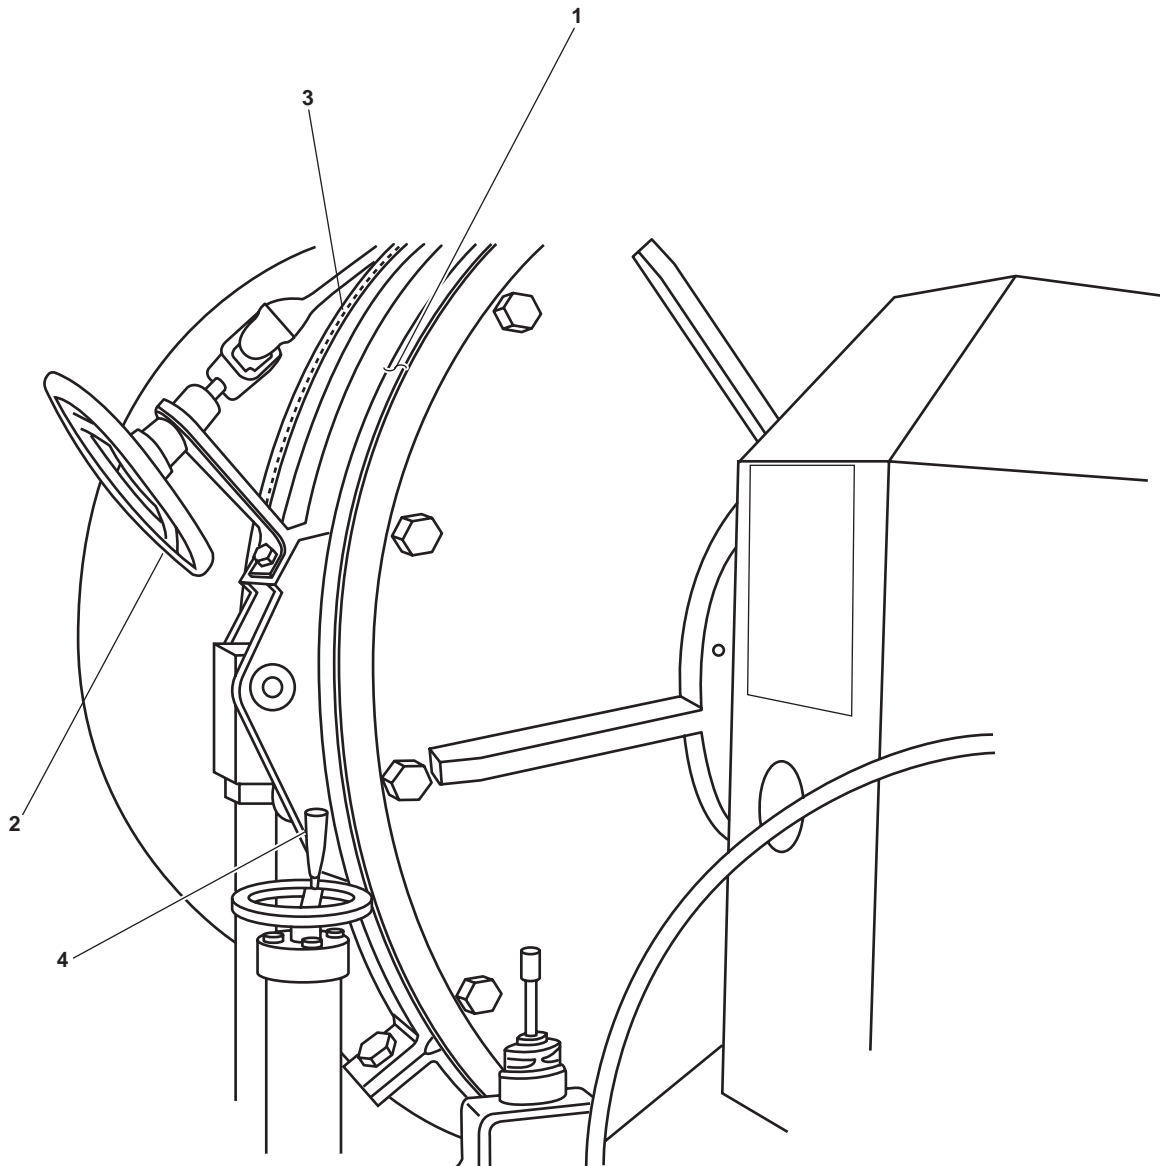
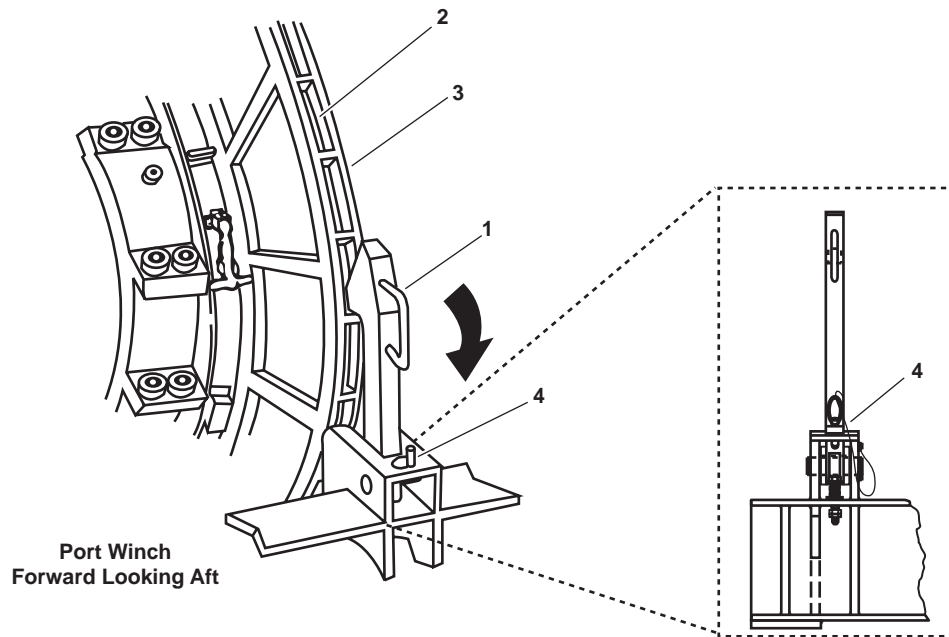
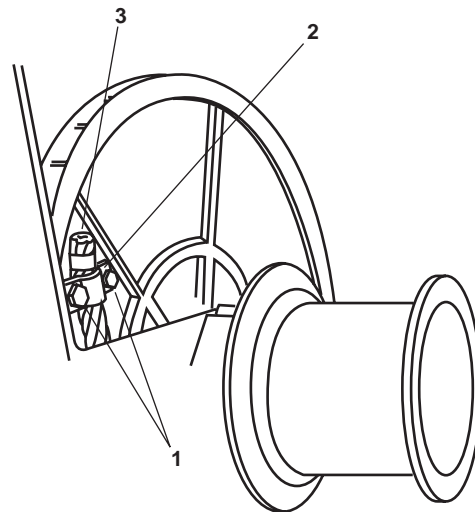
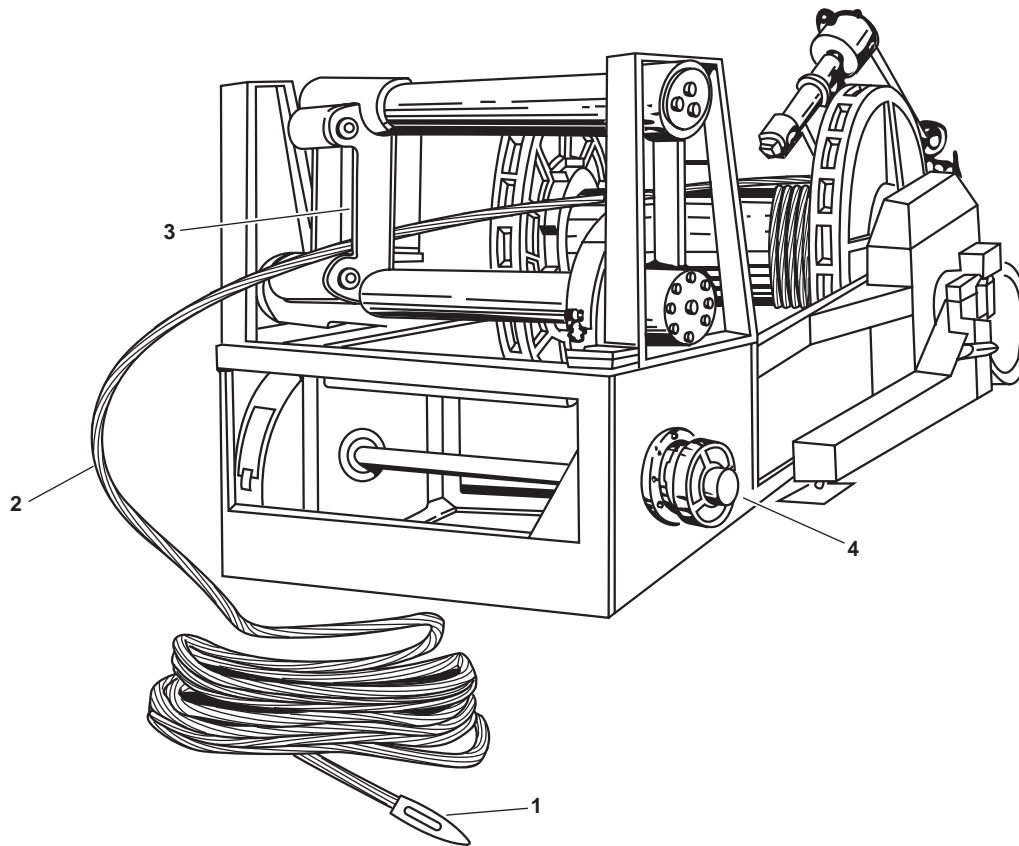

Figure 1. Towing Machine
Figure 2. Mechanical Dog
Figure 3. Cable Clamp Securing Bitter End of Wire Rope
Figure 4. Towing Machine Aft Looking Forward
1. Tighten the clutch brake (figure 1, item 1) by turning the clutch brake hand wheel (figure 1, item 2) . A force of 25 lb-ft (33.9 Nm) is sufficient to provide enough friction in the clutch brake to drive the towing machine under normal loads.
2. Loosen the auxiliary brake (figure 1, item 3) by turning the auxiliary brake hand wheel (figure 1, item 4).
3. Disengage the mechanical dog (figure 2, item 1) from the ratchet teeth (figure 2, item 2) on the towing machine drum (figure 2, item 3) by pulling the mechanical dog away from the towing machine drum (figure 2, item 3).
4. Secure the mechanical dog (figure 2, item 1) in the disengaged position by inserting the quick release pin (figure 2, item 4).
5. Remove the two bolts (figure 3, item 1) from the cable clamp (figure 3, item 2) securing the bitter end of the wire rope (figure 3, item 3).
6. Grasp the working end of the wire rope (figure 4, item 1) to maintain control of the wire rope (figure 4, item 2).
7. Loosen the clutch brake (figure 1, item 1) by turning the clutch brake hand wheel (figure 1, item 2) . The wire rope (figure 4, item 2) is now ready to be free spooled from the towing machine drum (figure 2, item 3).
8. Once all wire rope (figure 4, item 2) has been removed from the towing machine drum (figure 2, item 3) the towing machine is prepared for brake replacement. Notify the maintenance supervisor.
2. Install the bitter end of the wire rope (figure 3, item 3) through the spooling device rollers (figure 4, item 3) and secure the bitter end of the wire rope with the two bolts (figure 3, item 1) and the cable clamp (figure 3, item 2).
3. Heave in the wire rope (figure 4, item 2) at low speed (WP 0005 00) while maintaining a line tension of 10,000 lbs (4,356 kg) to 20,000 lbs (9,072 kg).
4. Man the spooling device hand wheel (figure 4, item 4) during the heave in process to help adjust the lay of the wire rope (figure 4, item 2).
5. Once the wire rope (figure 4, item 2) has been heaved onto the towing machine drum (figure 2, item 3), pay out the wire rope (figure 4, item 2) and heave it back while attached to a tow and the vessel is underway.